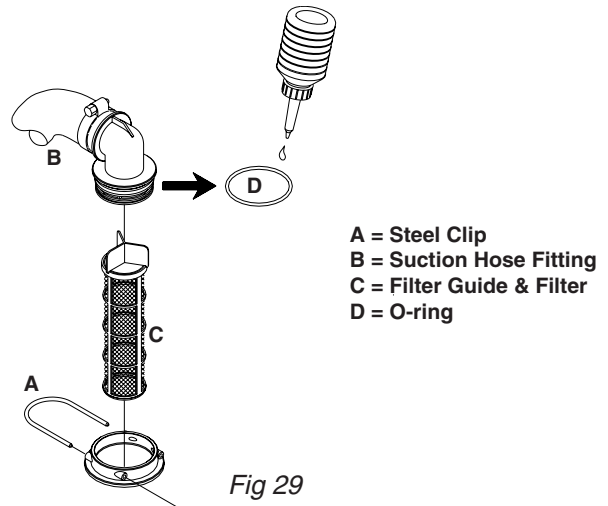

Fig 29
- 1 Pull the steel clip (**A Fig 29**) out.
- 2 Lift suction hose fitting (**B Fig 29**) from the housing.
- 3 The filter guide and filter (**C Fig 29**) can now be removed.
- 3 Ensure the O-ring (**D Fig 29**) on the hose fitting is in good condition and lubricated.
- 4 Refit suction hose (**B Fig 29**) and steel clip (**A Fig 29**).